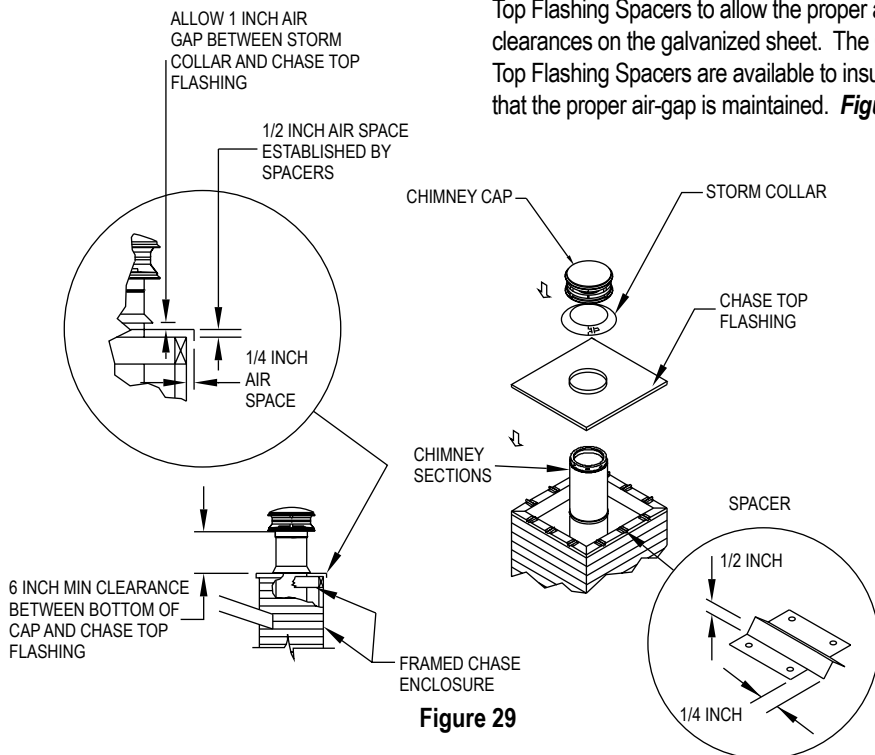

Figure 29
9. Install Chase Top Flashing: It is recommended that a Tee Supported Chimney be enclosed in a chase. If a chase enclosure has been constructed, you can either use a standard flat-roof flashing, or you can use a Chase Top Flashing. Using a Chase Top Flashing allows for a lower profile for the chimney. The Chase Top Flashing has an opening that is 3" larger in diameter than the DuraTech Chimney. If the Chase Top Flashing can fit over your chase enclosure as required (**Fig 29**) then install as directed, or trim as needed. However, if the Chase Top Flashing is smaller than your chase enclosure, you will need to provide a galvanized sheet capable of covering your chase and overhanging the sides by 1/2 - 3/4 inch. Attach the Chase Top Flashing to the galvanized sheet using appropriate sheet metal screws and non-hardening waterproof sealant. Use the Chase Top Flashing Spacers to allow the proper air-gap clearances on the galvanized sheet. The Chase Top Flashing Spacers are available to insure that the proper air-gap is maintained. **Figure 29**